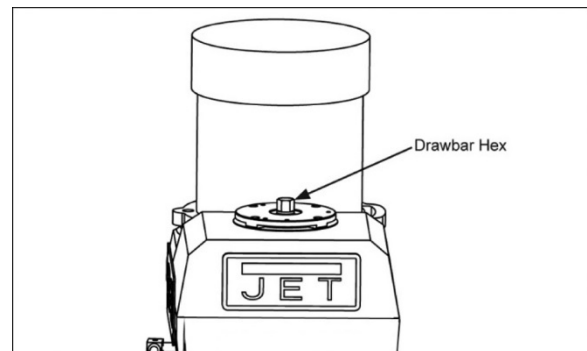

Figure 8-10
2. Using provided wrench on drawbar hexagonal end (Figure 8-10), loosen draw bar two or three turns counterclockwise.